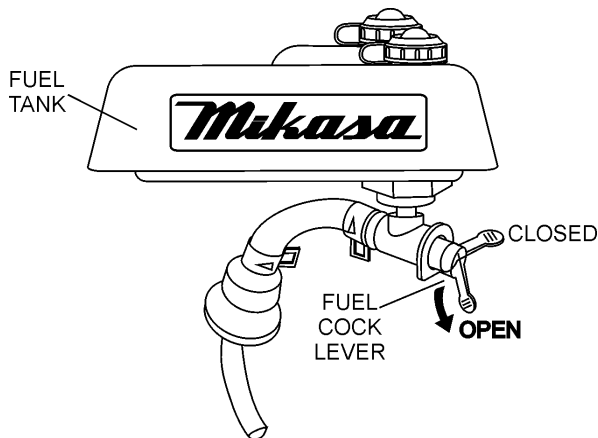

Figure 6. Fuel Shut-Off Valve (Open)
1. Open the **fuel shut-off valve** by moving the **fuel cock lever** to the **open** position (Figure 6).